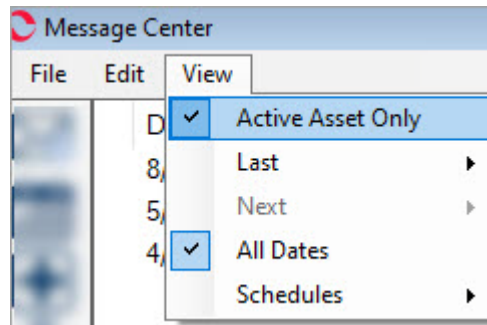

Figure 11: View, Active Asset Only
2. Select View and verify that Active Asset Only (default) is in the checked or unchecked position (which ever is desired). See Figure 11 on page 15.
There are two choices for viewing scheduled jobs: single asset or all assets with scheduled jobs. The outcome is controlled by the Active Asset Only selection in the View menu (Figure 11).